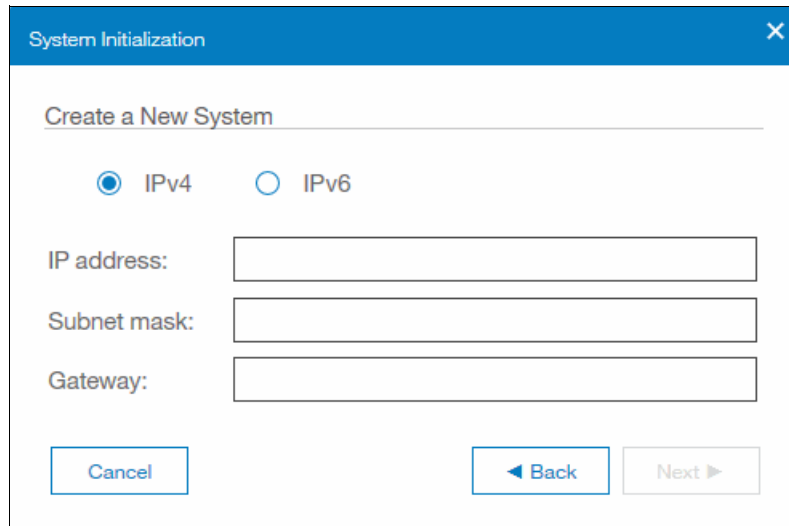

Figure 6-49 System initialization create a new system pane
10. The System Initialization Create a New System pane is displayed (Figure 6-49).